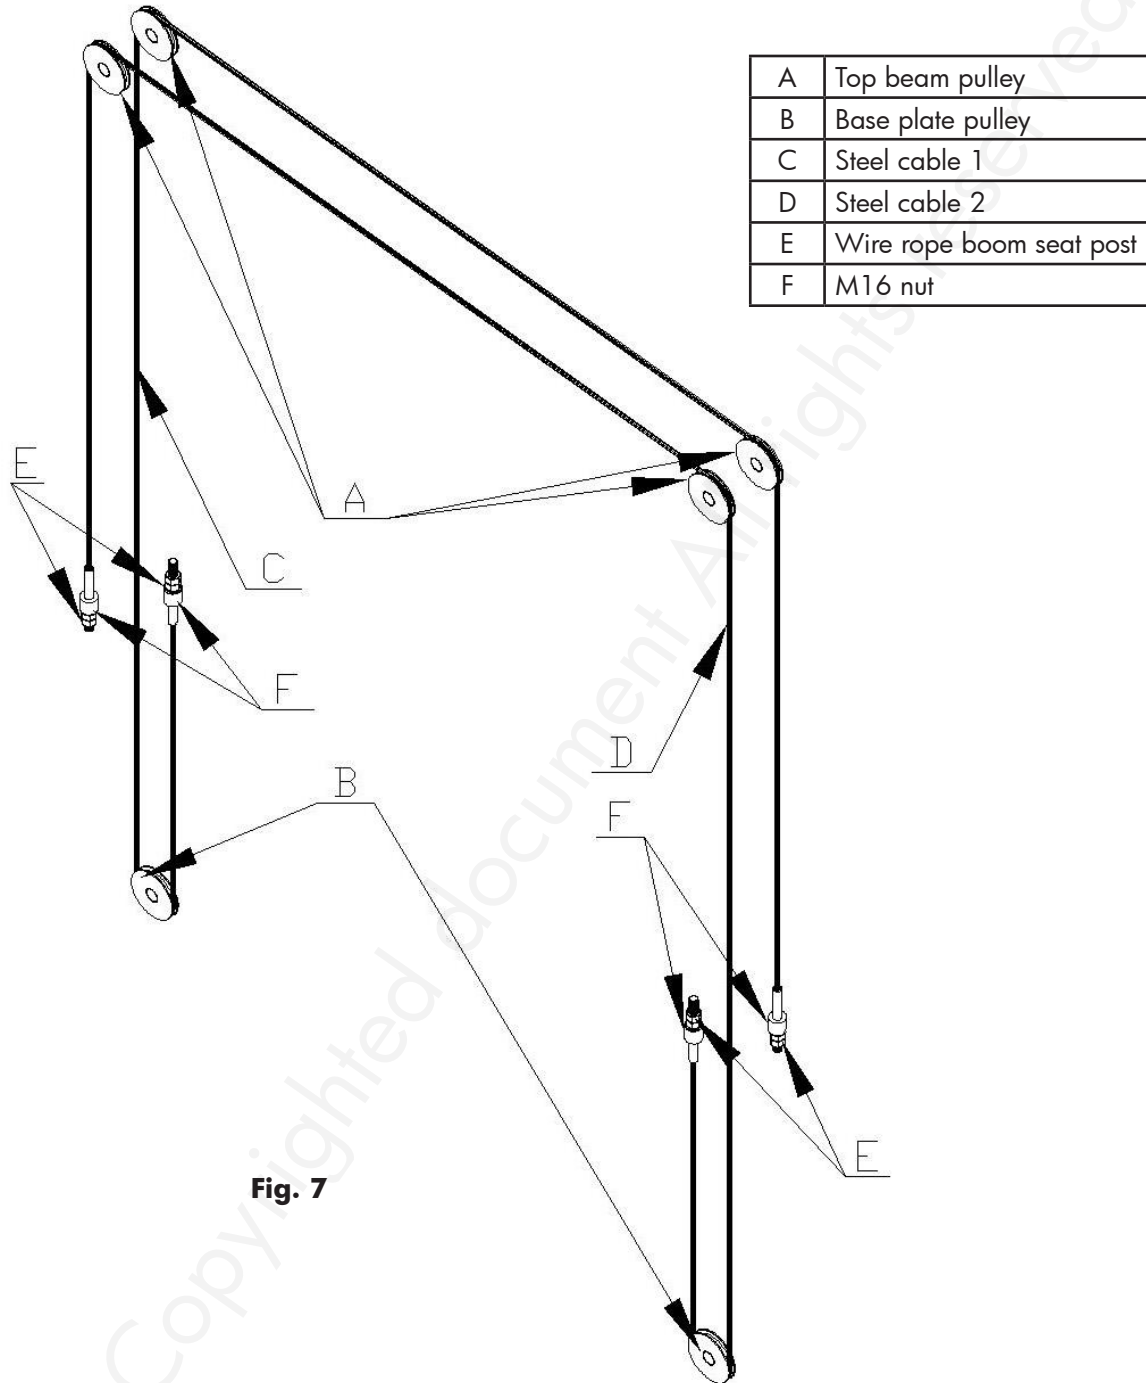

Fig. 7
6. Connect steel cables (fig. 7).